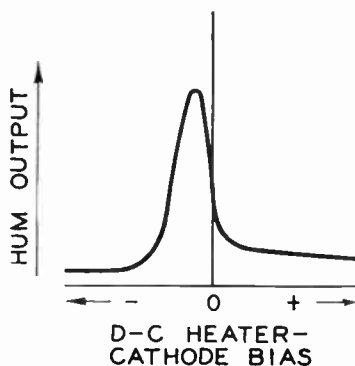

FIG. 4
Three remedies are suggested for this type of hum: (1) reduce Z_c to a low value by adequate by-passing, (2) obtain bias from a source that is not common to heater and cathode, and (3) bias the heater either positive or negative with respect to cathode by about 10 volts. The value of suggestions (1) and (2) is generally appreciated, but that of (3) may require further explanation. The success of (3) depends on a resistance characteristic peculiar to heater cathode insulation. Curves showing the relation between hum voltage and d-c heater bias indicate that maximum hum occurs at biases between ± 1 volt on the heater; that hum voltage falls rapidly with increasing bias; and that hum voltage remains at a constant low value for heater cathode biases greater than approximately ± 10 volts. The general shape of a hum curve is shown in Fig. 4.